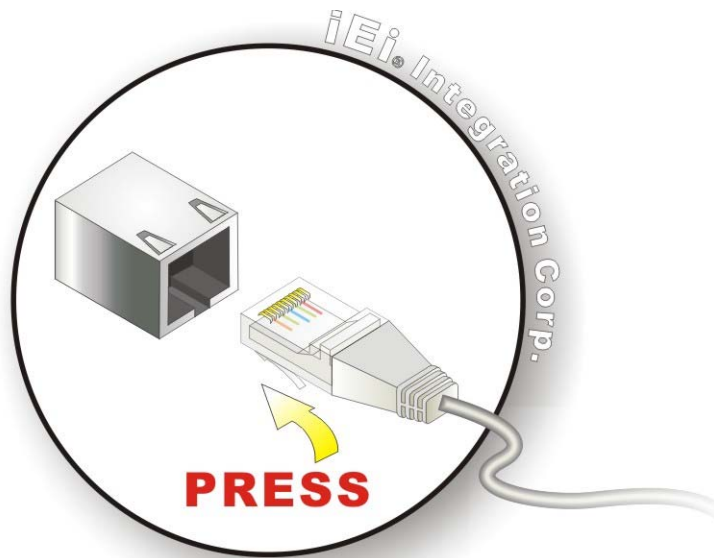

Figure 4-16: LAN Connection
Step 2: Align the connectors. Align the RJ-45 connector on the LAN cable with one of the RJ-45 connectors on the KINO-HM551. See Figure 4-16.